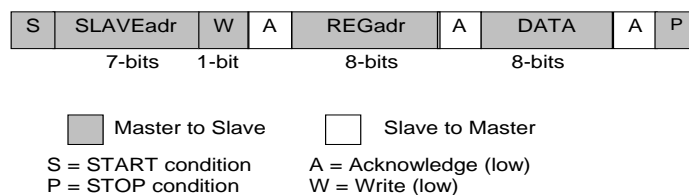

Figure 10: I2C Byte Write (SDA Line)
The I2C bus is monitored for a valid slave address whenever the interface is enabled. It responds immediately when it receives its own slave address. The acknowledge is done by pulling the SDA line low during the following clock cycle (white blocks marked with A in Figure 10 and Figure 11).
The protocol for a register write from master to slave consists of a START condition, a slave address with read/write bit, and the eight-bit register address followed by eight bits of data, terminated by a STOP condition. DA9142 responds to all bytes with acknowledge (A), see Figure 10.